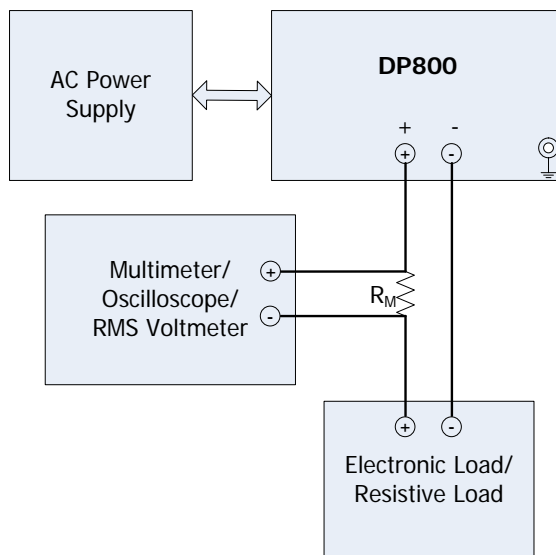
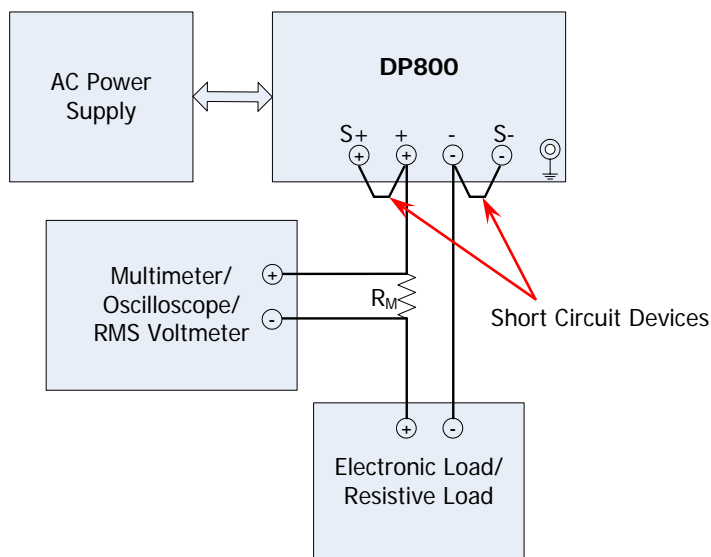

Figure 3-1 CC Test Connections
Figure 3-2 CC Test Connections (Sense)
Before performing the tests, select the appropriate voltage via the “voltage selector” at the rear panel of the power supply according to the AC line voltage of the country (230V is taken as an example in all the tests in this manual). Under normal temperature (about 25°C), make connections according to Figure 3-1 or Figure 3-2 using the devices recommended in “**Recommended Test Devices**” (for CC ripple and noise test, please connect the desired devices according to Figure 2-1 or Figure 2-2). During the test process, please set the voltage of the AC power supply according to the voltage selected of the “voltage selector” at the rear panel of the power supply.
- During the CC tests, make connections according to Figure 3-1 for the normal channels (namely the channels that do not support the Sense function) of the DP800 series power supply. For the channels that support the Sense function (DP811A/DP811 and CH2 of DP821A/DP821), make connections according to Figure 3-2 (note to short-circuit the (S+) and (+) terminals, (S-) and (-) terminals of the channel respectively) and turn on the Sense function of the channel during the test process to measure the specifications under Sense mode.
1. Turn off DP800. Connect DP800, AC power supply, current sampling resistor (the resistance R_M is 0.022Ω), electronic load and multimeter according to Figure 3-1. Please pay attention to the connection method of the current sampling resistor, electronic load and the channel output terminals of DP800 as well as the connection method of the current sampling resistor and multimeter. Here, CH1 is taken as an example and the connection method is also applicable to CH2 and CH3.
- For the channels that support the Sense function of DP800 series, please connect DP800, AC power supply, current sampling resistor, electronic load and multimeter according to Figure 3-2 and turn on the Sense function of the channel after selecting the current channel in step 3.